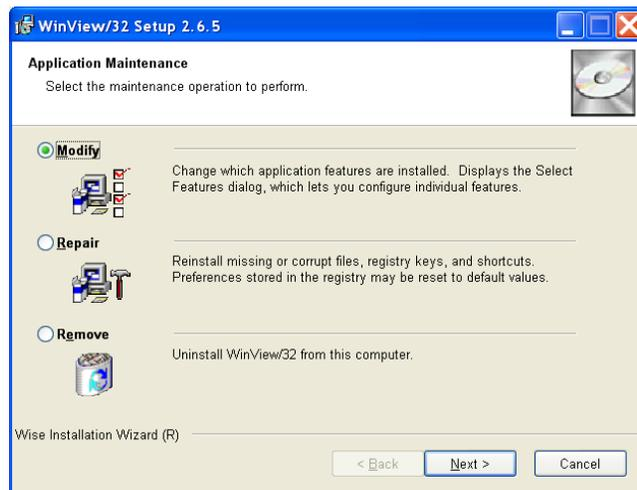

Figure 162. Application Maintenance dialog
3. Because WinView/32 was previously installed, the **Application Maintenance** dialog (Figure 162) will be displayed.